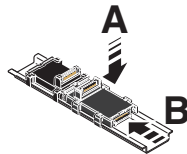

Figure 5-4 Connecting bus base modules to each other
- First install the bus base module for the controller/bus coupler and all bus base modules necessary for the station onto the DIN rail (Figure 5-4, A).
- Push each subsequent bus base module into the connection of the previous bus base module (Figure 5-4, B).